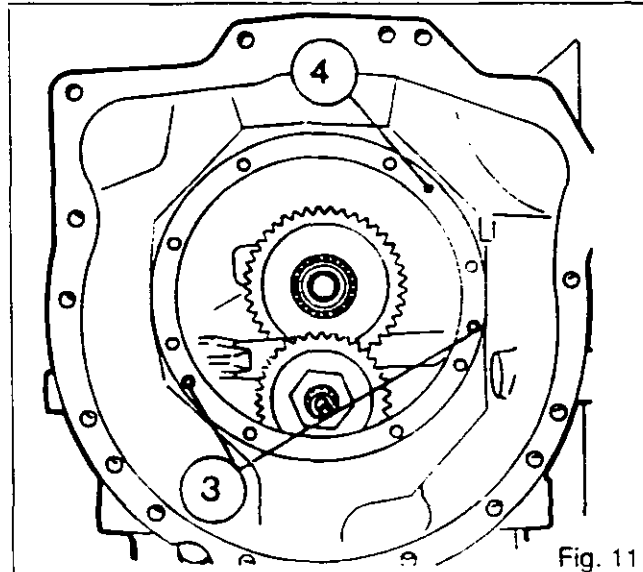

Fig. 11
25. Fit new O-rings (3) and the locating pin (4) to the gearbox housing (Fig. 11).